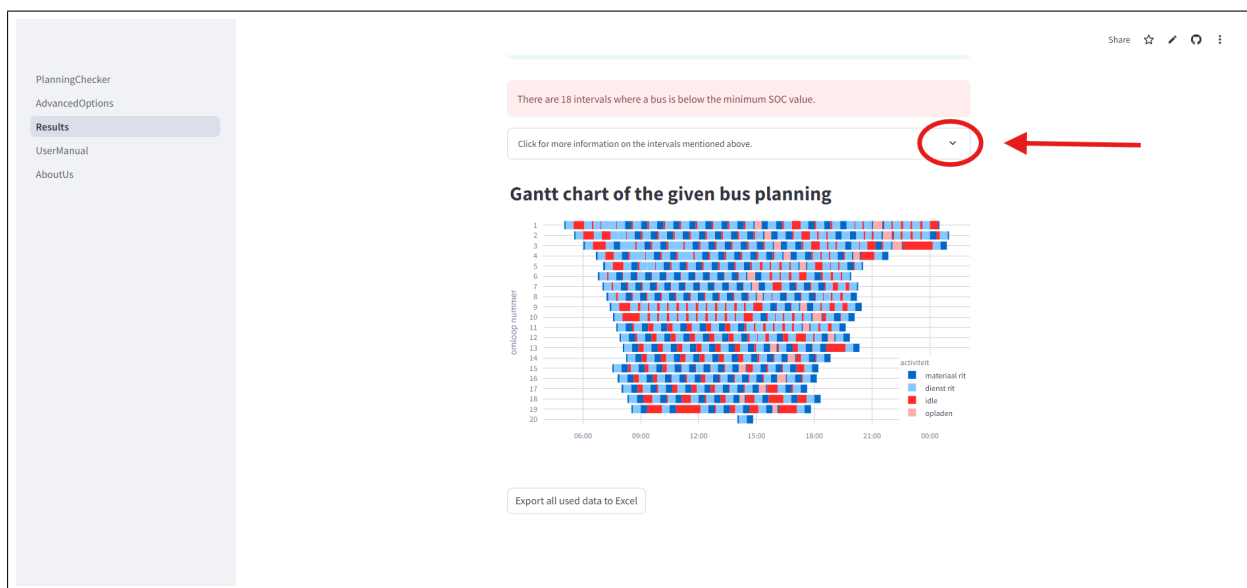

Figure 5: *The results screen with the expand button highlighted.*
- **Messages drop-down:** If the planning is incomplete or has errors; you can click the drop-down to show specifics about where it is incomplete (see figure 5 and 6).